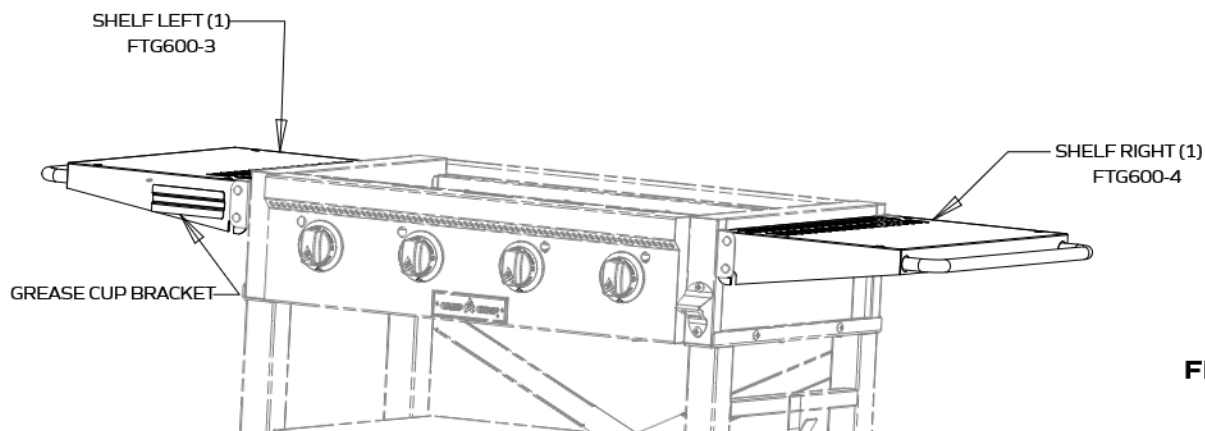

FIG 6
15. Install the side shelves by inserting hook over the bottom rod on the brackets. Lift shelf up and rotate into upper rod. Press shelf down to lock into position. See Figure 6. (Note: The shelf with the grease cup bracket on the side must be installed on the left side of the grill.)